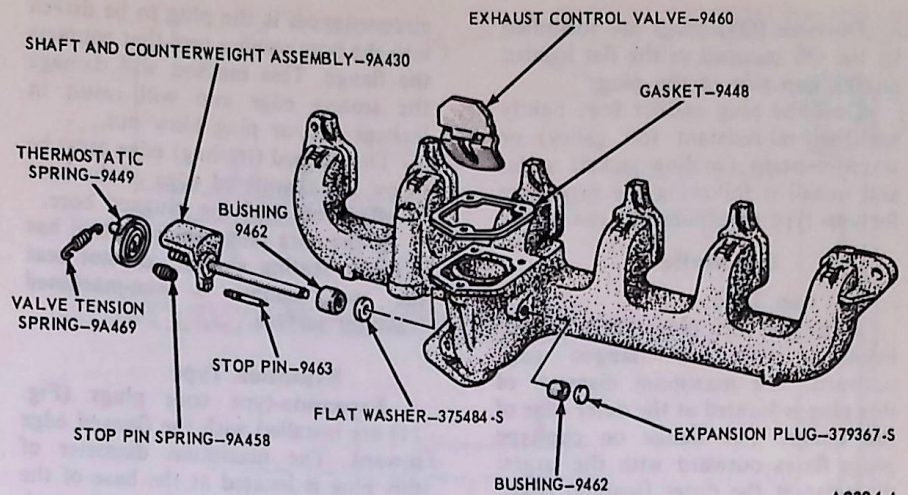

FIG. 18 Exhaust Control Valve Assembly—240 Six
2. Remove the valve tension spring and the thermostatic spring from the exhaust control valve shaft (Fig. 18).